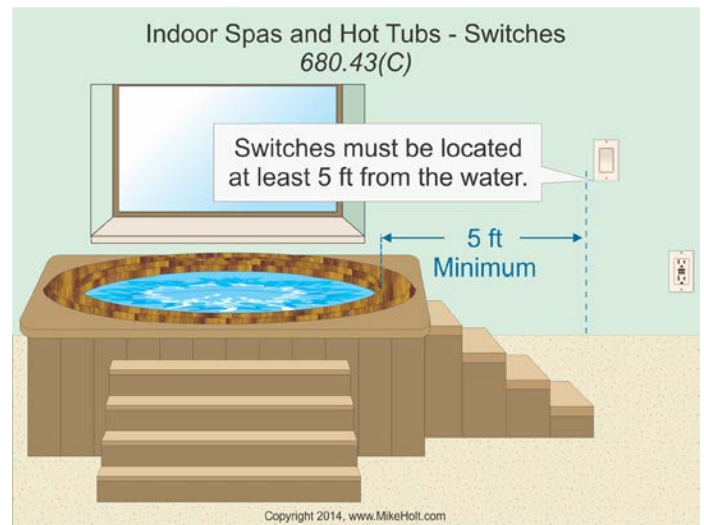

Figure 680–57
(2) Surface-mounted luminaires with a glass or plastic globe, a non-metallic body, or a metallic body isolated from contact, and suitable for use in damp locations.
(C) Switches. Switches must be located not less than 5 ft, measured horizontally, from the inside walls of the indoor spa or hot tub. *Figure 680–57*